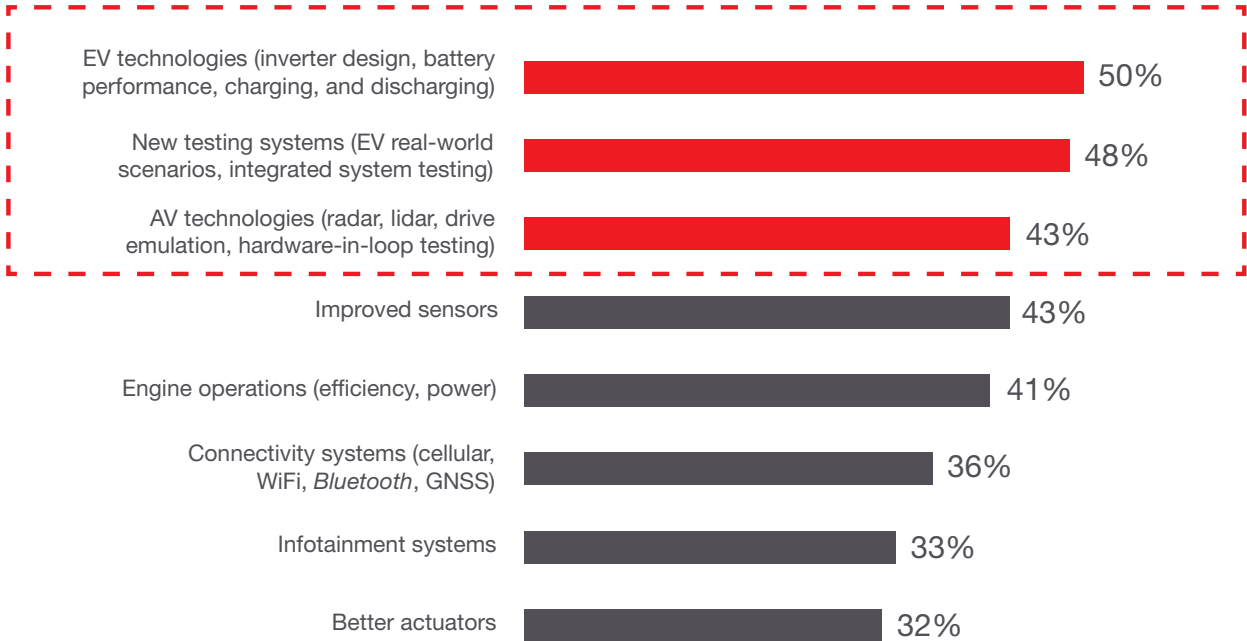

Figure 1. Leading automotive technology investments by automakers
In a survey by Keysight Technologies, automakers ranked electric vehicle (EV) technologies, including inverter design, battery performance, charging, and cell formation as among their top technology investments (see Figure 1).